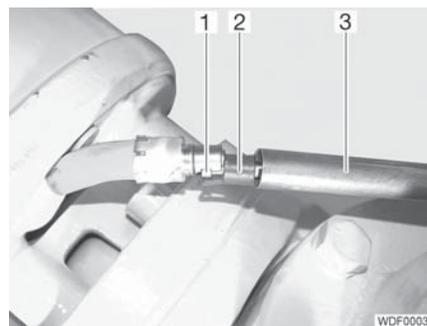

Fig. 243 Bowden cable on the front axle
- Push in the Bowden cable (Fig. 243,1) at the side.
- Push the fastener (Fig. 243,2) towards the brake drum and secure it with the hook.
- Push the sleeve (Fig. 243,3) over the fastener.